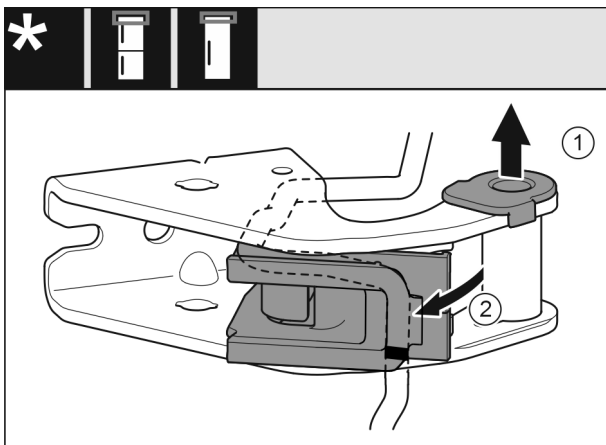

Fig. 27
- ▶ Pull out the bearing bushing Fig. 27 (1) from the guide.
- ▶ Swing out the cable bracket Fig. 27 (2).